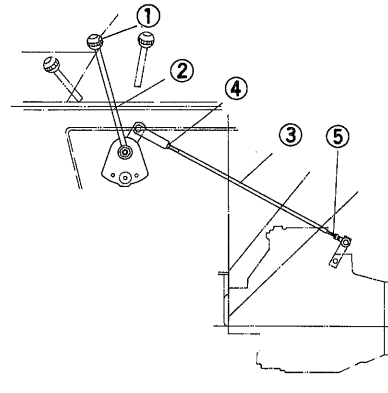

Fig. 21
When pump installation is complete, adjust length of rod (3). To adjust, loosen nut (4) or (5) that fixes clevis, remove clevis pin and turn clevis by necessary amount. Through the adjustment procedure, keep F-R lever (2) and pump lever (1) in neutral position. (Fig. 21)